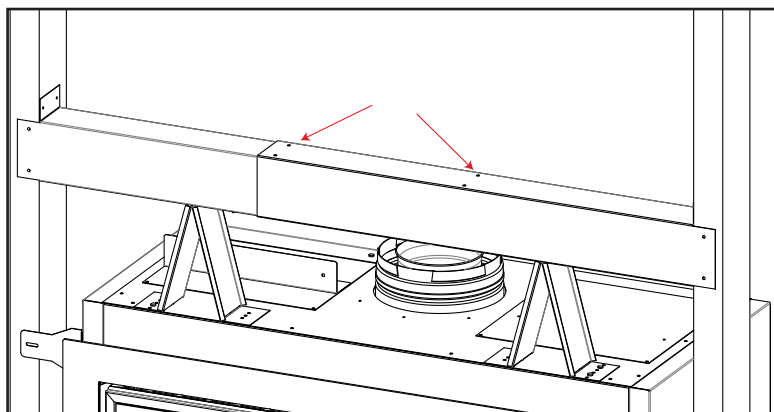

**Figure 19: Steel Stud Assembly**
- Take the two steel stud pieces and slid them into each other. The flanges of each piece should be at the end of the assembly, as well as facing upwards as shown in Figure 19.